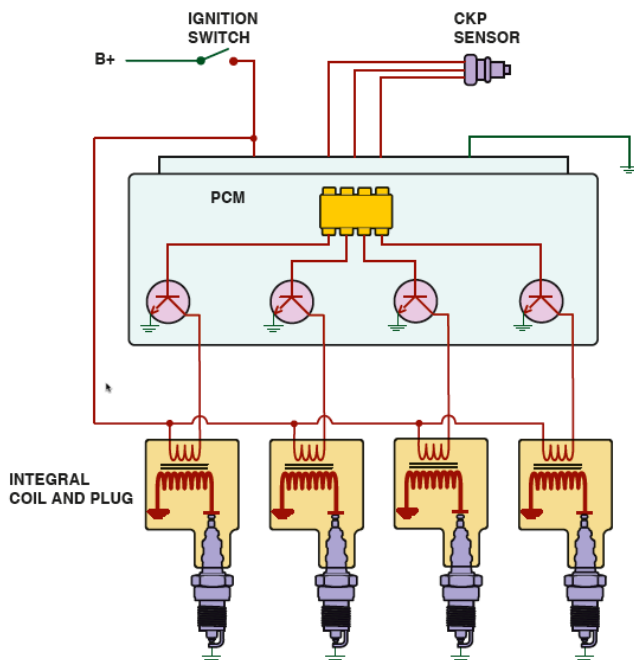

Figure 13. A coil-on-plug ignition system.
- Coil-on-plug system . This type of system uses a single ignition coil for each cylinder with the coil placed above or near the spark plug. Fig. 13.